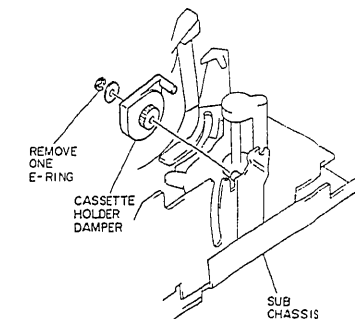

Fig. 2-41
- 1) Remove one (1) E-ring and remove the cassette holder damper from the sub chassis. (See Fig. 2-41)